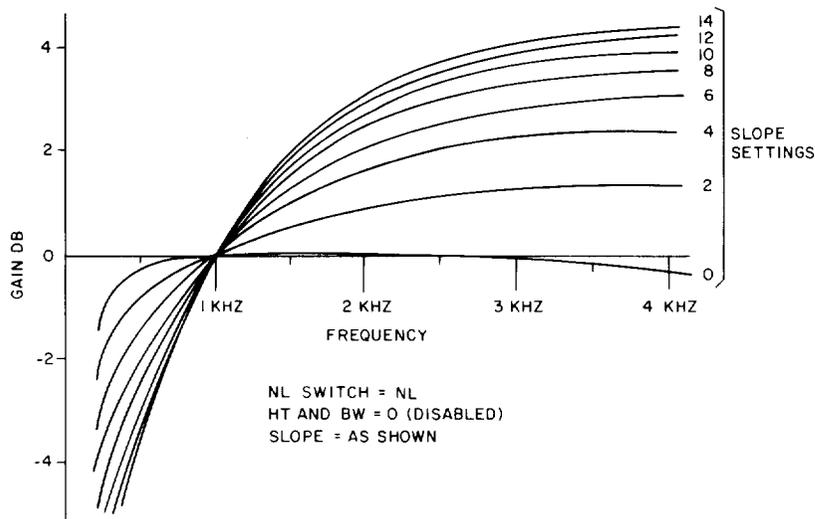
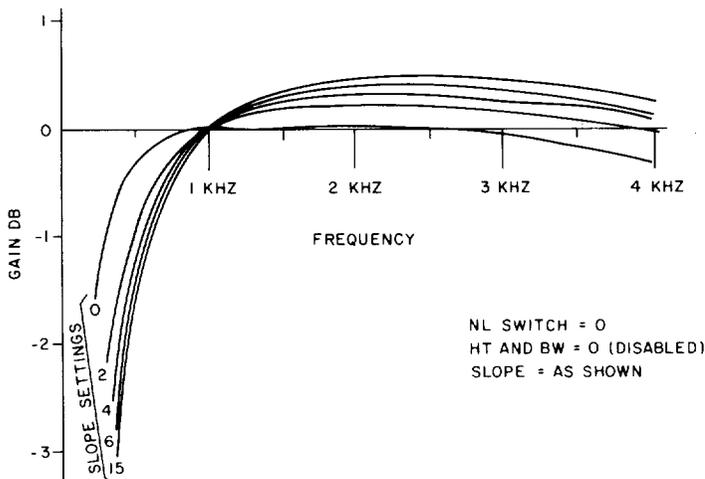

Fig. 8—Gain Frequency Response of the Equalizer Unit, NL/L = L, Slope Variable
Fig. 9—Gain Frequency Response of the Equalizer Unit, NL/L = L, Slope Variable
4.02 Figures 8 through 11 give the frequency response of the gain and equalizer units. Figure 8 gives the response curves for various SLOPE settings with the NL/L switch set to NL (nonloaded). Figure 9 provides response curves for the same